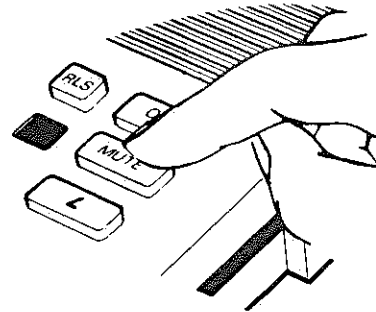

Fig. 9
5. **Mute Button.** The Mute button is located on the right side of the unit (Fig. 9). Operating this button enables the user to converse privately with a third person without the called party hearing the conversation. The user can, however, hear the called party.